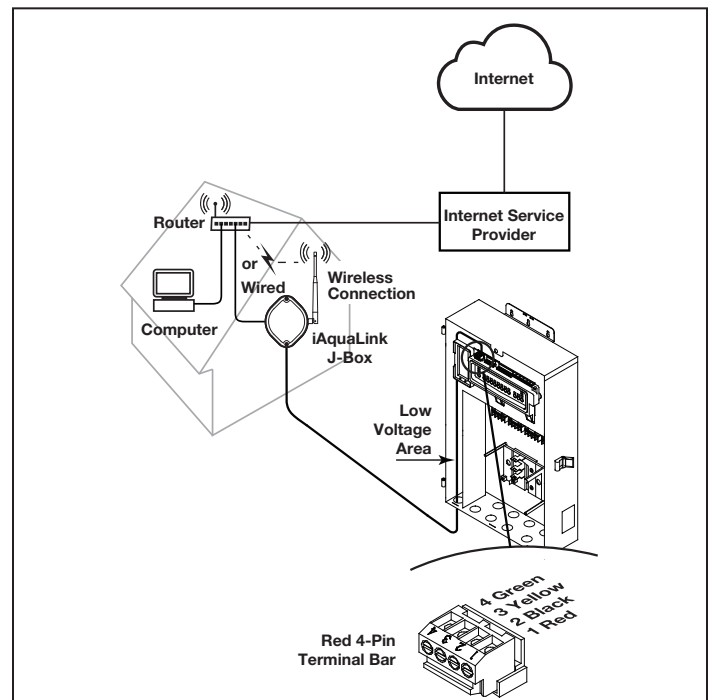

Figure 31. iAquaLink J-Box Indoor Installation
2. Mount the outdoor iAquaLink J-box at least six (6) feet (1,8 m) above the ground, at least ten (10) feet (3 m) from any motor or air blowers that may be in the vicinity, and at least five (5) feet (1.5 m) away from other transceiver J-boxes. See Figure 31.
**NOTE** To improve performance of the transceiver, mount the iAquaLink device more than six (6) feet (1.8 m) above the ground.
6. Strip each wire ¼" (6 mm) and connect to the red, wire connector on the power center PCB. A multiplex kit (P/N 6584) may be required if there are more than two (2) cables running to a red, wire connector on the PCB.
3. Install the iAquaLink device at least six (6) feet (1.8 m) above the ground and at least five (5) feet (1.5 m) away from other transceiver J-boxes.
5. Pull cable through the knockout and into the low voltage area. See Figure 31.
7. Strip each wire ¼" (6 mm) and connect to the red, wire connector on the power center PCB. A multiplex kit (P/N 6584) may be required if there are more than two (2) cables running to a red, wire connector on the power center PCB.